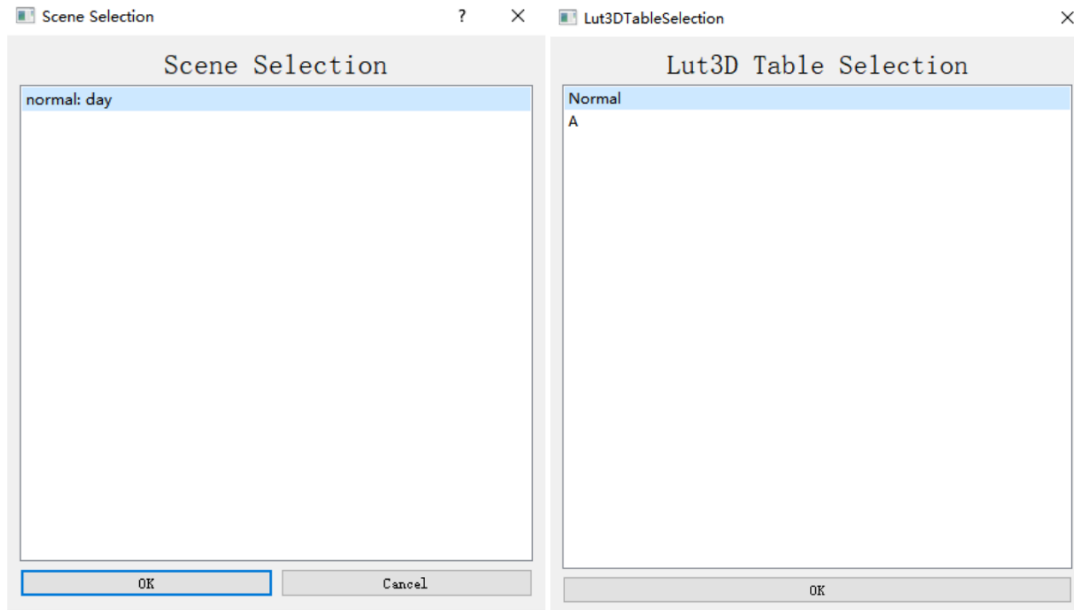

Figure 2-6-3
**Load IQ File**: Click Load IQ File to import IQ parameters, select the scene and Lut3D table to be imported. As shown in Figure 2-6-3.